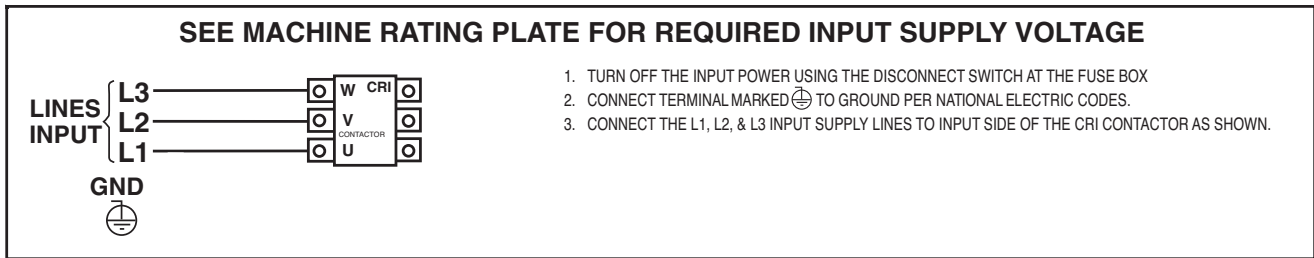

FIGURE A.4-Reconnect Panel Board Positions for Single Voltage Machines
1. For 415 Single Voltage, see Figure A.4. (S17894)